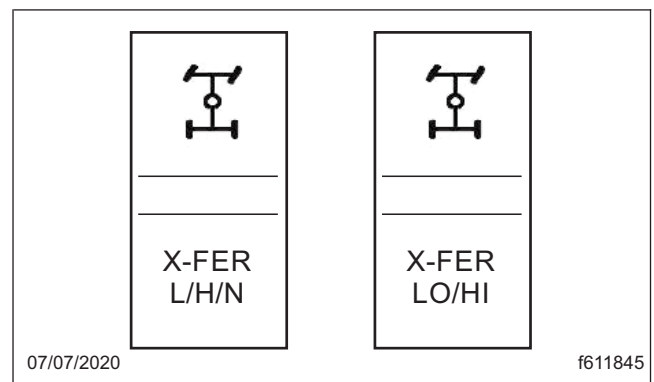

Fig. 4.21, Transfer Case Range Switches
There are two possible transfer case range switches: a two-position rocker switch with LO and Hi range, or a three-position switch that has a third, neutral (N) position, for vehicles with a PTO unit. See Fig. 4.21.